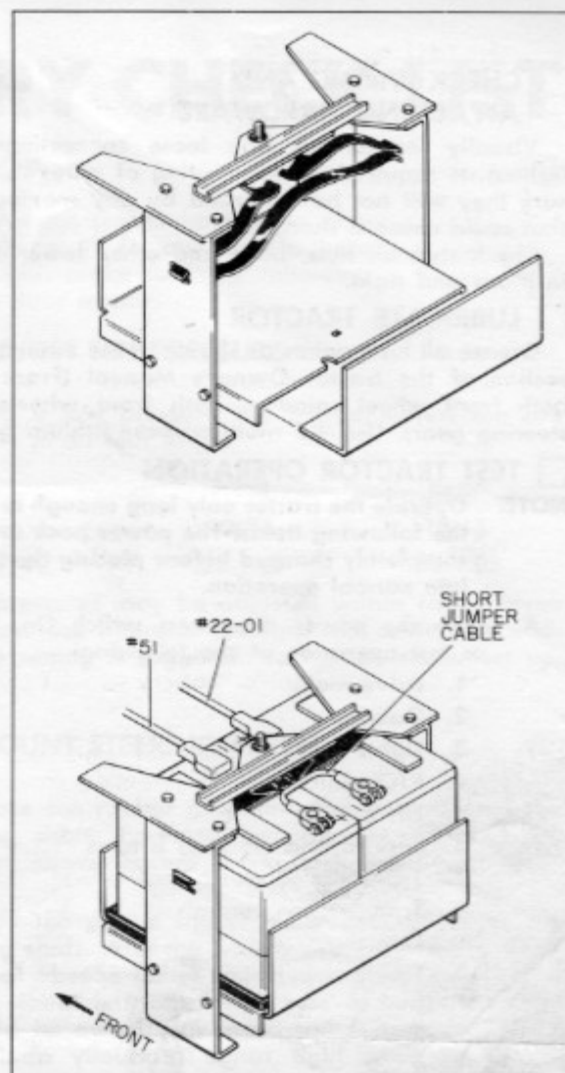

FIG. 5. Battery Installation, Rear Tray
4. Route the remaining banding material through the two slots in each fender support as shown in Fig. 5. Temporarily secure the banding material above the seat support to keep it out of the way during battery installation.
7. Install the batteries as shown in Fig. 5, sliding them into the battery tray from the rear. Use care to avoid pinching any wiring and be sure the banding does not get caught in front of the batteries. Do not push the batteries completely into the battery compartment.
8. Connect the two main harness battery cables to the front battery posts (Fig. 5). Apply terminal grease or petroleum jelly to the cable clamps. Install a plastic terminal cover on the two cables and then push the batteries completely into the battery compartment.